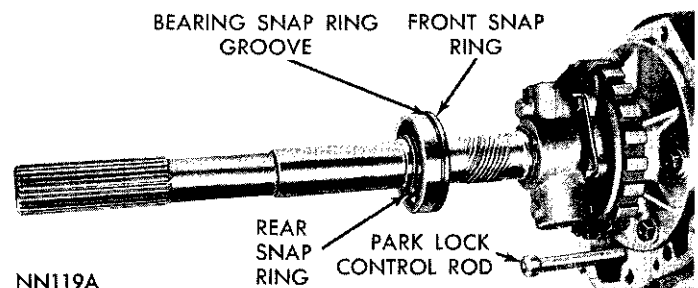

Fig. 24—Output Shaft Bearing
move output shaft bearing rear snap ring and remove bearing from the shaft (Fig. 24).
(2) If removed, install snap ring in front groove on output shaft. Install a new bearing on shaft with outer race ring groove toward front (Fig. 24), then install rear snap ring.